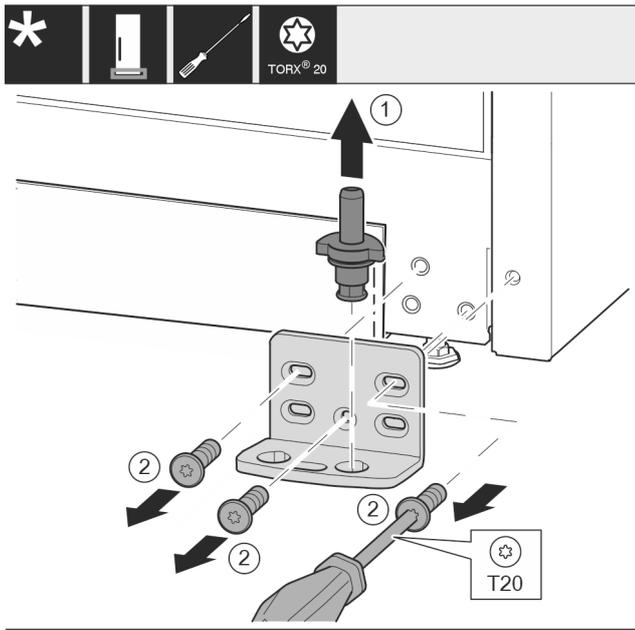

Fig. 17
- ▶ Lift the bearing pin completely upward and pull it out. Fig. 17 (1)
- ▶ Take out the screws with a T20 screwdriver and take off the bearing bracket. Fig. 17 (2)